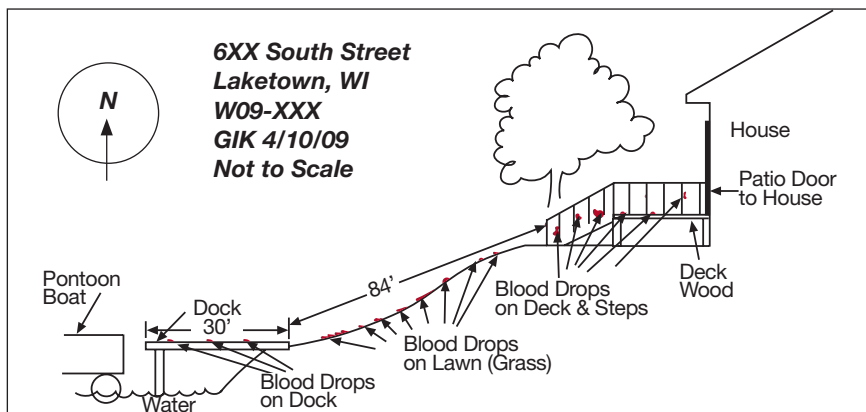

Fig. 4-2
- B.** Elevation sketch – portrays a vertical plane rather than a horizontal plane. Examples include bloodstain patterns on vertical surfaces such as walls or cabinetry and bullet holes through windows (see Figure 4-2).